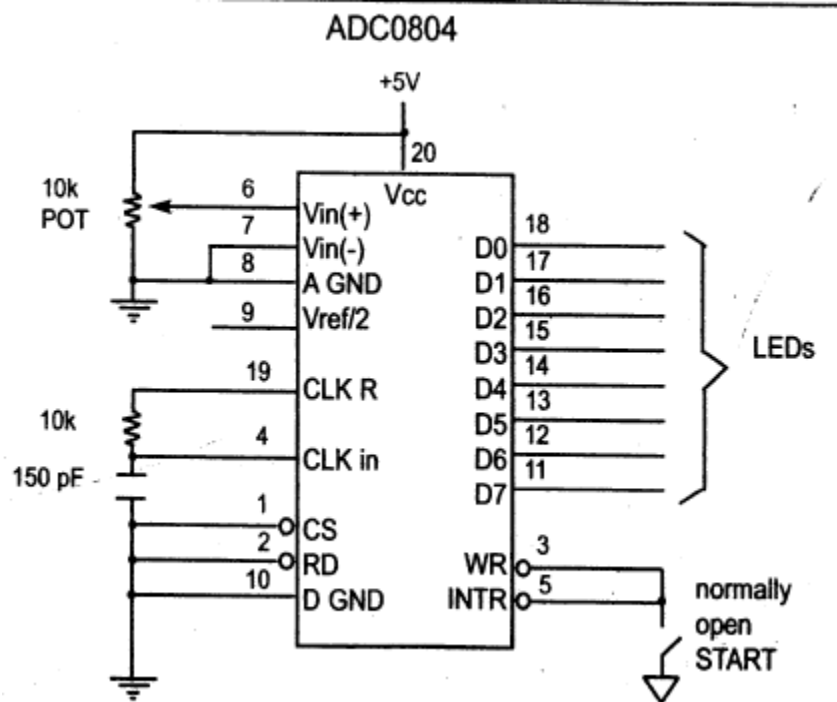

Figure 5.5 ADC0804 Chip (Testing ADC0804 in Free Running Mode)
- Figure 5.5 Pin out of ADC0804 in free running mode.